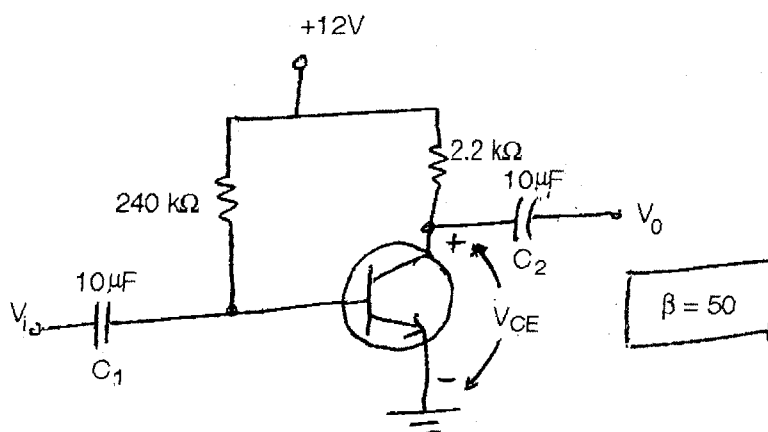

Fig. 4 Fixed bias circuit
c) Determine the following for the network given in Fig. 4